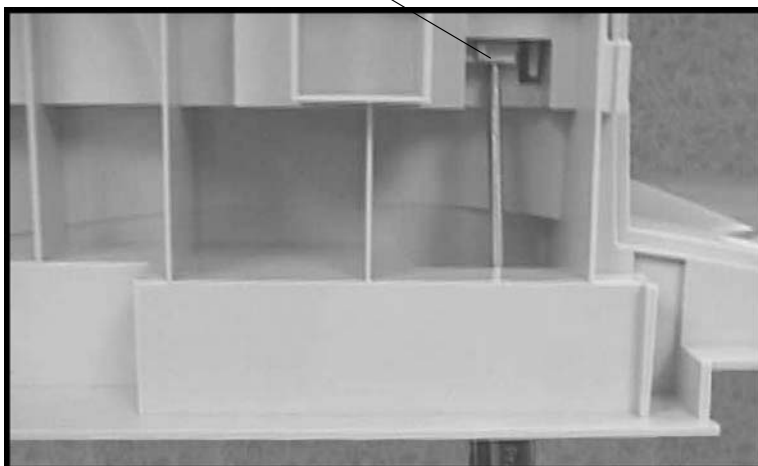

Figure 3
4. Release the catch on the left of the Control Panel/Scanner Chassis Assembly, Figure 3.